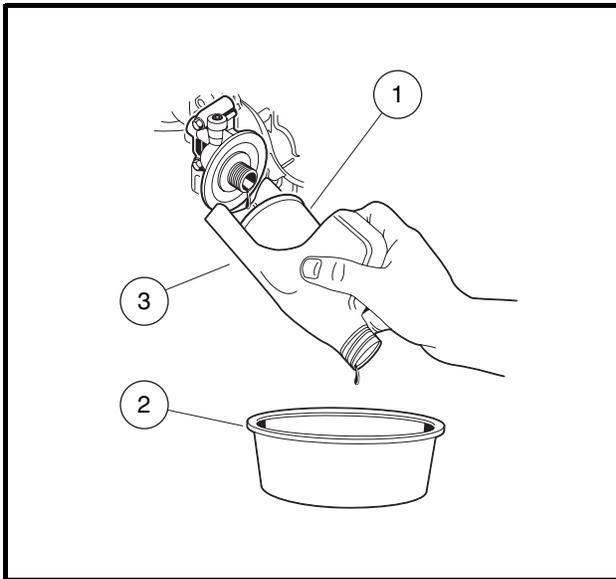

Figure 30 Remove Engine Oil Filter
9. Remove the engine oil filter (1), turning it counterclockwise, allowing the residual oil in the filter port and filter to drain into the oil drain pan (2) (**Figure 30**). **See following NOTE.**